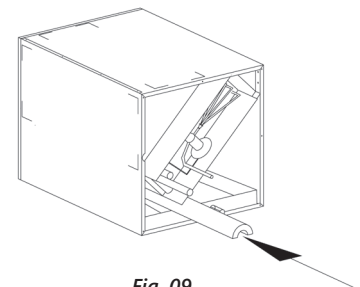

Fig. 09
- 6) Ensure the foam air dam is re-installed under the corner of the coil to prevent air from bypassing under the coil. (Fig. 09)